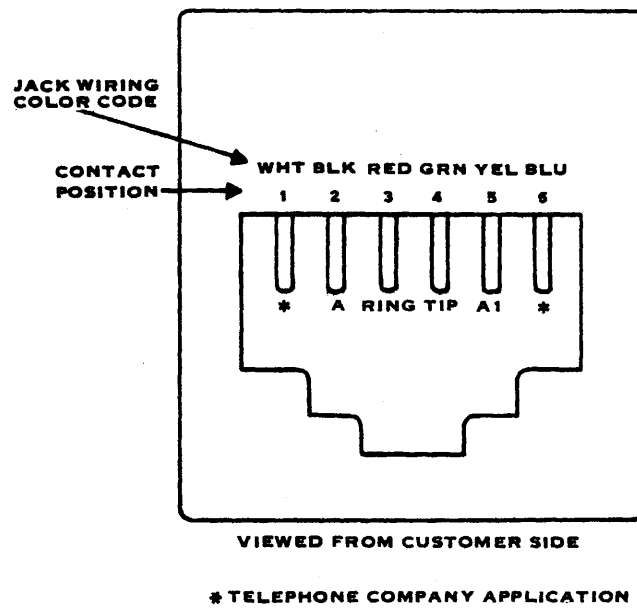

Figure 1. Standard Wiring Arrangement for Six-Position Bridged Jacks.
3.01 During the FCC meetings on equipment standards for Part 68, it was agreed that the wiring standards shown in Figure 1 would apply to all six-position miniaturized bridged jacks.
3.14 Terminal designation nomenclature applied to the retrofit plug body has been changed several times since the original design. Figure 10a shows the current method of terminal identification that is to be applied in the connection of all cords notwithstanding the possible presence of the obsolete terminal identification. The numerals 1 through 6 conform to the jack contact numbering plan shown in Figure 1.
REFER TO FIGURE 1 FOR WIRE DESIGNATIONS.